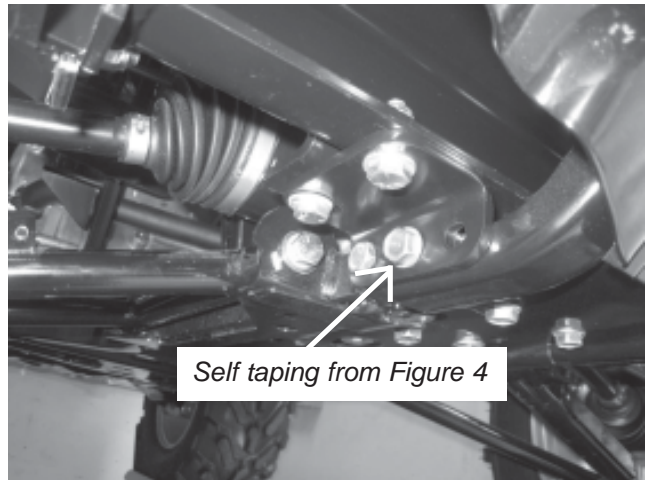

Figure 5
6. Install Part B on both sides. Place the 2 supplied  $5/16"$  x  $3/4"$  bolts through the rear holes of Part B and into the bottom frame rail. Tighten to the specified torque in Table 1. Place the side frame rail bolt removed in Step 5 in the front hole and thread into hole, see Figure 5. Make sure to tighten straight into the hole. These bolts are self tapping and will tap their own thread while tightening.